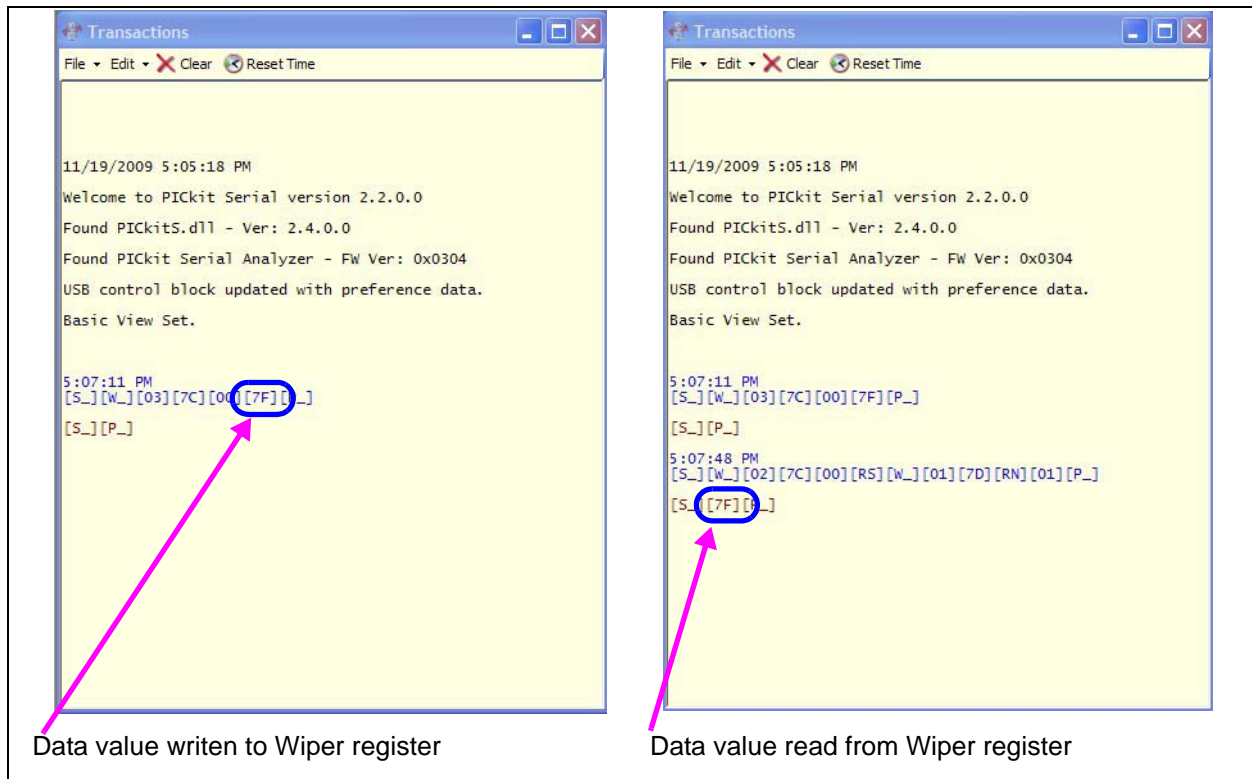

FIGURE 2-15: MCP40D18 Transaction Windows 1 and 2.
10. Click on the “Execute Script” button. This executes the script shown in the script detail column, which will update the wiper value to 7Fh. The Wiper voltage will now be $\sim V_{DD}$ ($\sim 5V$). The Transaction window (see Figure 2-15) will be updated to indicate the execution of the script.
12. Click on the “Execute Script” button. This executes the script shown in the script detail column. The Transaction window (see Figure 2-15) will be updated to indicate the execution of the script. The Data read is shown in the last line.